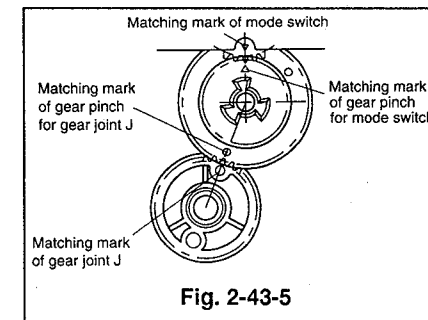

Fig. 2-43-5
- ④ Make sure that the hole of the gear joint J aligns with the matching mark of the main plate, and the matching mark of the gear pinch with that of the mode switch as shown in Fig. 2-43-5.